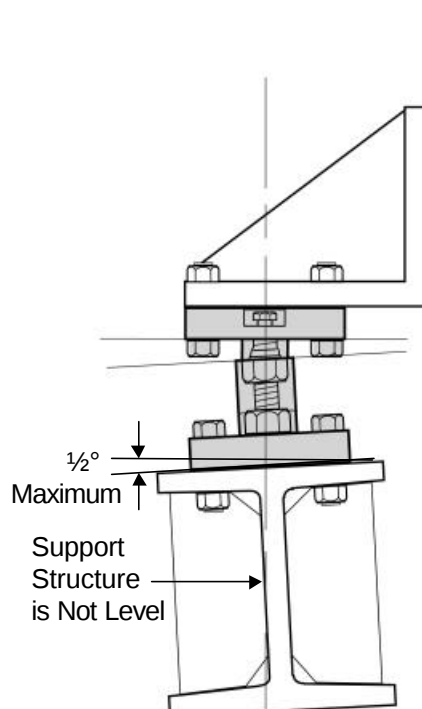

Figure 5-8c
- Figure 5-8c: Support structure is out of level, applying side forces to the load cell.